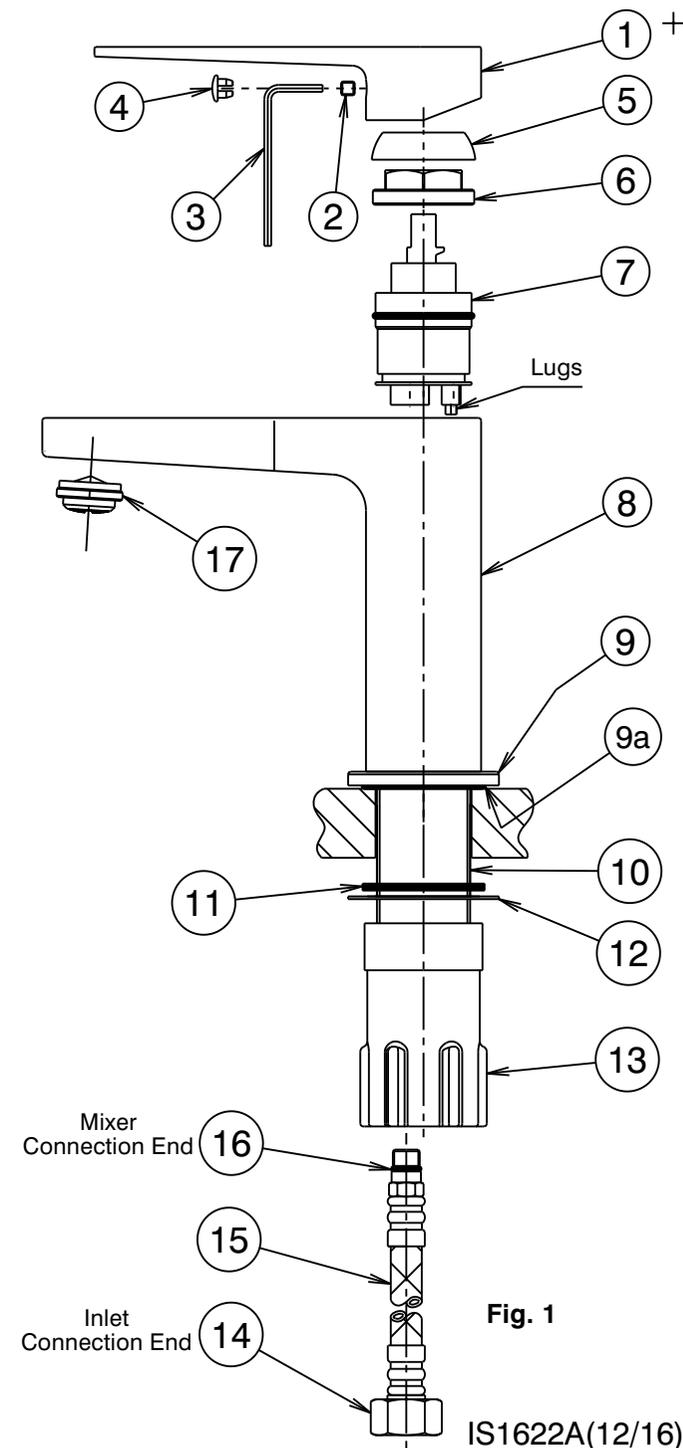

Fig. 1
- 1) From fixing pack fit 'O' ring (9a) into groove in underside of mixer body (8).
- 2) **Flexible Tail Mixer Connections:** Apply suitable lubricant to 'O' rings (16). Fit flexible tail (15) (with red indication) into inlet hole marked with a Red Dot in underside of mixer body (8). Hand tighten the tail, ensuring the 'O' ring (16) has fully entered the sealing bore to provide a watertight joint. Fit other flexible tail (with blue indication) into remaining hole in a similar manner.
- 3) Insert the inlet connection end (14) of each flexible tail (15) through the hole in the deck. Insert threaded tail (10) of mixer (8) into deck hole, fit rubber washer (11), followed by metal washer (12), over the threaded tail of the mixer (8) as shown (Fig. 1). Screw on nut (13) and tighten firmly by hand to secure the mixer to the deck.
- 4) **Flexible Tail Inlet Connections:** Connect the flexible tails (15) to the hot and cold isolating stop taps, hand tighten the fixing nut (14) until rubber cone contacts the sealing face of the connection end, then tighten a further one turn to provide a watertight joint.